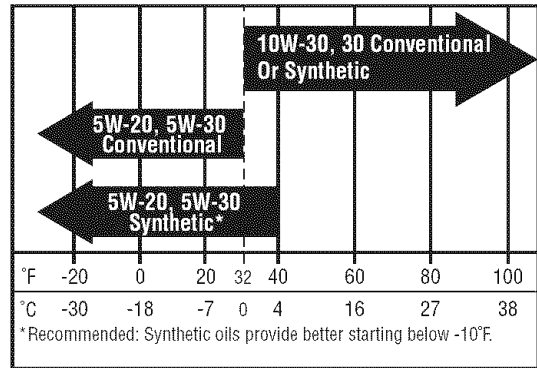
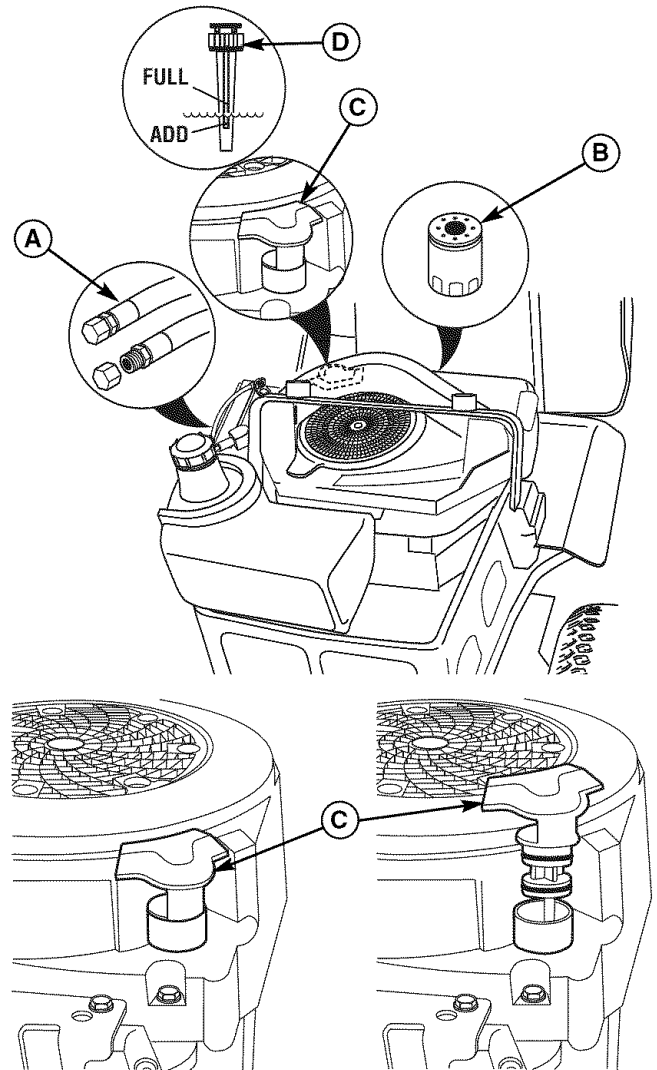

Figure 26. Recommended Engine Oil
Figure 27. Oil Change
2. Clean the area around the dip stick (C, Figure 27).
3. Remove the dip stick (C) and clean it with a paper towel.
5. Remove the dip stick and read the oil level. The oil level should be between the "F" and "L" marks (D). If not, add oil according to the oil recommendations chart (Figure 26).
1. Clean the area around the dip stick (C, Figure 27) and oil drain (A).
2. Remove the oil drain plug (A) and dip stick (C). Allow ample time for complete drainage.
3. Remove the oil filter (B). Discard the filter.
7. Reinstall the oil drain plug (A) and route the oil drain hose along side the engine.